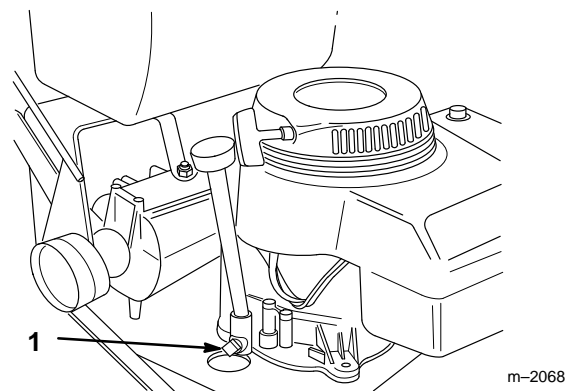

Figure 24
3. Place a pan below the oil drain. Remove the oil drain plug (Fig. 24).